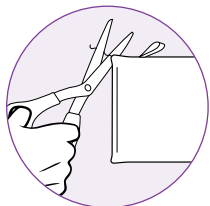

fig. 15
- 2 If there are loose threads on the cleaning pocket carefully cut the thread with scissors. Do not pull on them or cut at the base. (fig. 15)